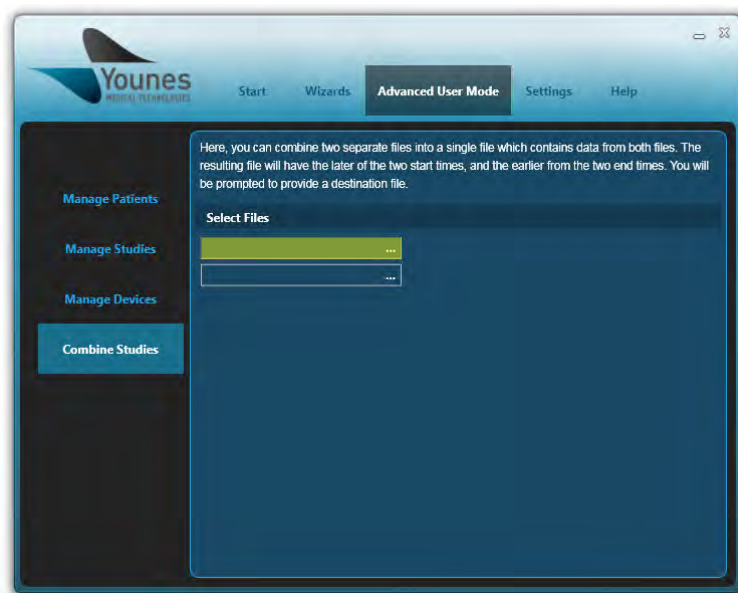
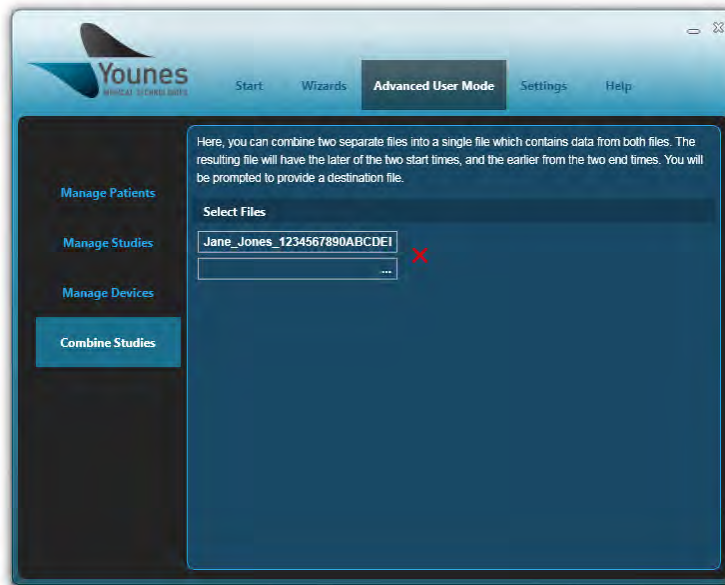
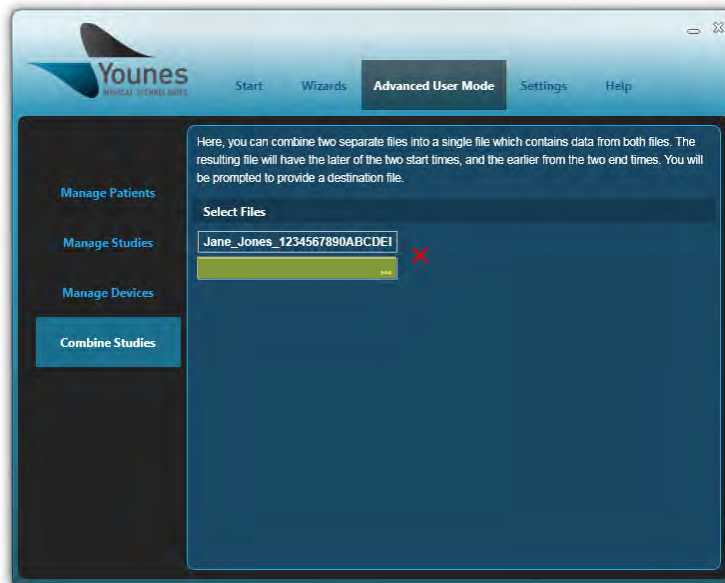
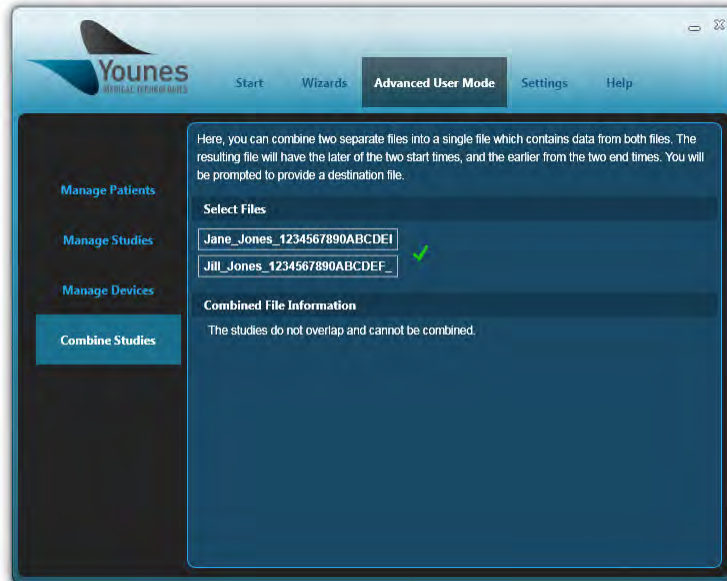

Figure 96 – Windows PC Prodigy Applications Screen With File Box 1 Highlighted (Combine Studies)
Figure 97 – Windows PC Prodigy Applications Screen With File 1 Uploaded (Combine Studies)
Figure 98 – Windows PC Prodigy Applications Screen With File Box 2 Highlighted (Combine Studies)
Figure 99 – Windows PC Prodigy Application Files Selected Fail To Overlap (Combine Studies)
3. Read the information provided on the screen. To select one of the files you would like to combine click anywhere within the box highlighted in Figure 96.
5. As shown in Figure 97, the name of the file you selected will appear in the box highlighted in Figure 96.
6. To select the second file you would like to combine with the first, click anywhere within the box highlighted in Figure 98.
8. If the files cannot be successfully combined, the screen will appear as shown in Figure 99. If there are other studies you wish to combine, click anywhere in the rectangles highlighted in Figure 96 and Figure 98 to replace the files.